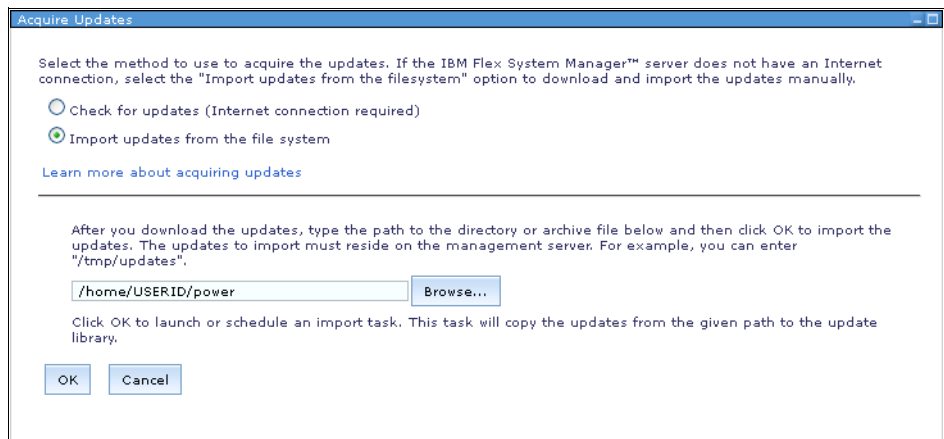

Figure 7-65 Importing the update
2. Select the Import updates from the file system option and enter the complete path on the FSM to the update package, then click **OK**, as shown in Figure 7-65.